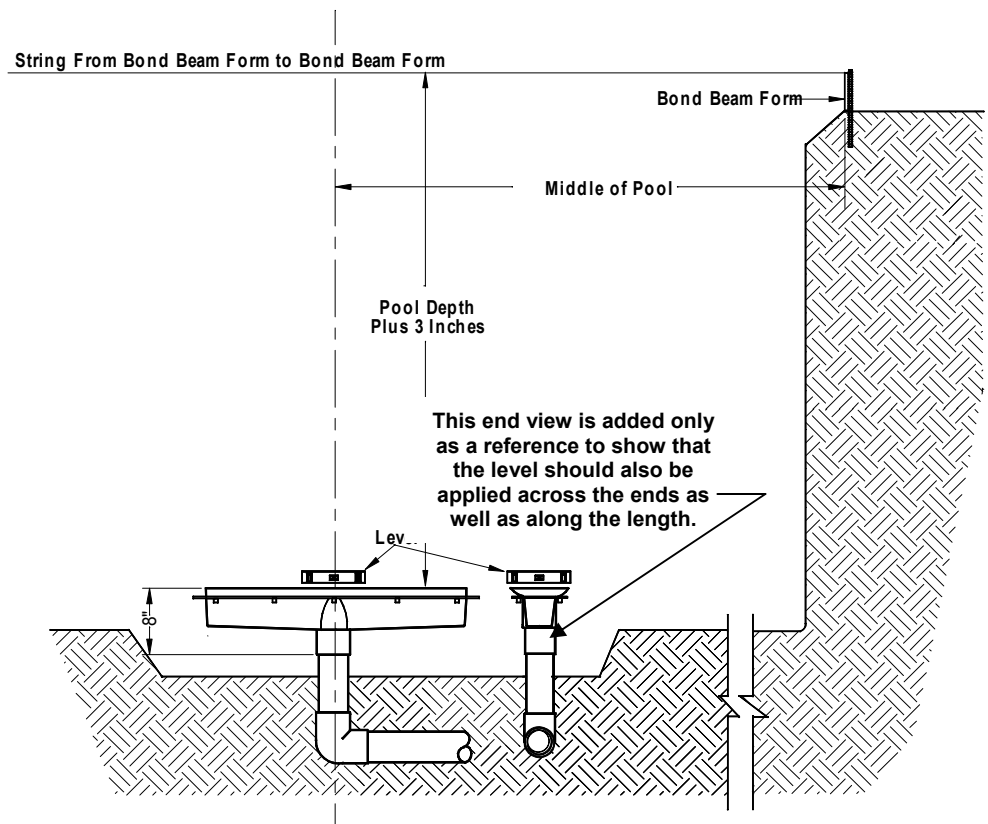

Figure 1
2. In order to ensure that the Channel Drain is set at the proper height, a string must be run across the pool from the top of the bond beam forms and directly over the lowest point in the pool where the drain riser will be located. (See Figure 1)